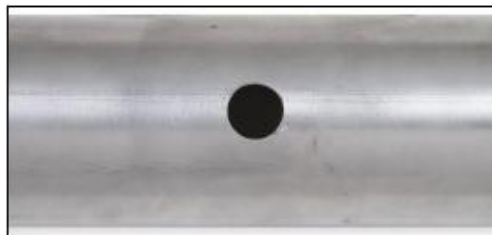

Figure 2
4. Mark the center of the casting on the exhaust tube and drill a 3/4" hole. Deburr the hole after drilling (Figure 2).